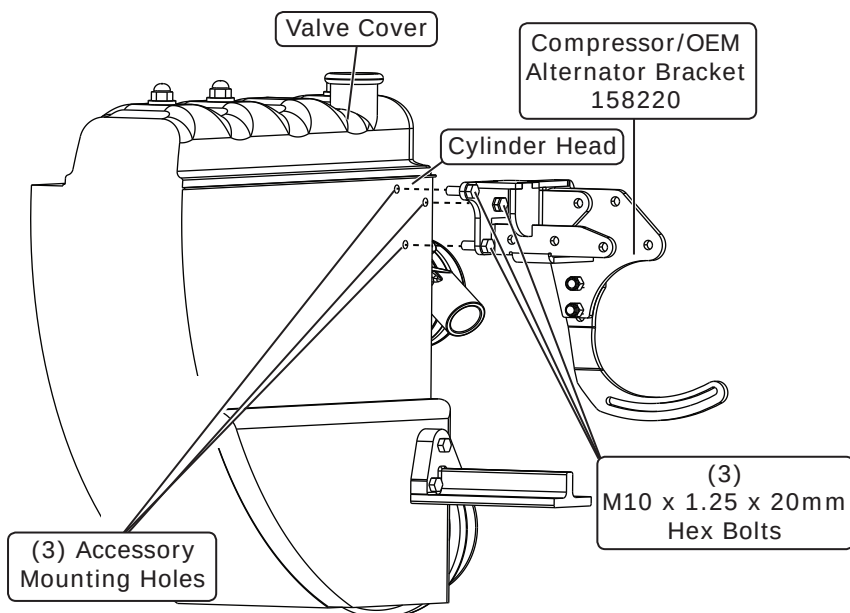

Figure 1
1. Using an M10 x 1.25 metric tap, clean the (3) accessory mounting holes on the passenger side cylinder head to clear away any debris (See Photo 1, below).
2. Install the compressor/OEM alternator bracket onto the cylinder head using (3) M10 x 1.25 x 20mm hex bolts as shown in Figure 1, below. **NOTE: The installed bracket is shown in Photo 2, below.**